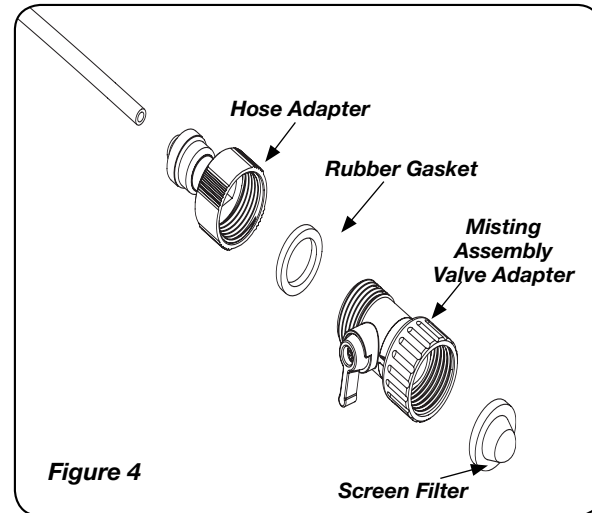
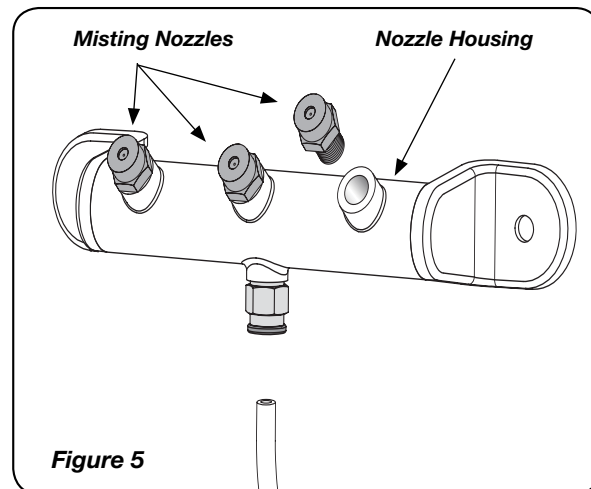

Figure 4
Figure 5
5. After the appropriate amount of soak time for the parts requiring cleaning, reassemble the misting subsystem by inserting the misting nozzles into the Nozzle Housing and turning clockwise until secure. (Figure 5) Only turn until hand tight; do not over tighten. Next, return the screen filter to the inside of the manifold's valve adapter. Finally, reattach the valve adapter to the hose adapter. (Figure 4)